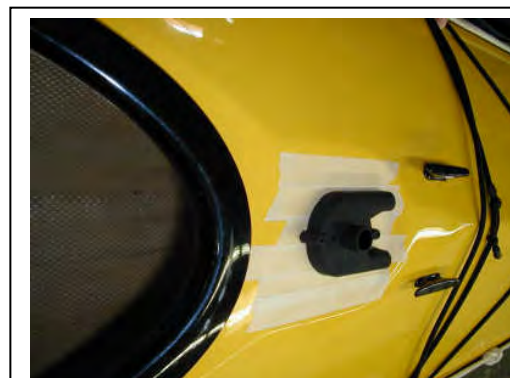

Fig. 4 – Trim Tap placed atop masked area.
c. Place the Trim Tab Housing onto the masking tape, making sure that it is in correct alignment, with the Cable Adjustment Bolts forward. Be sure you've taken into account anything that might interfere with the Trim Tab Housing and Cable Adjustment Bolts under the deck and with the Trim Tab Knob on the deck. (Fig. 4)